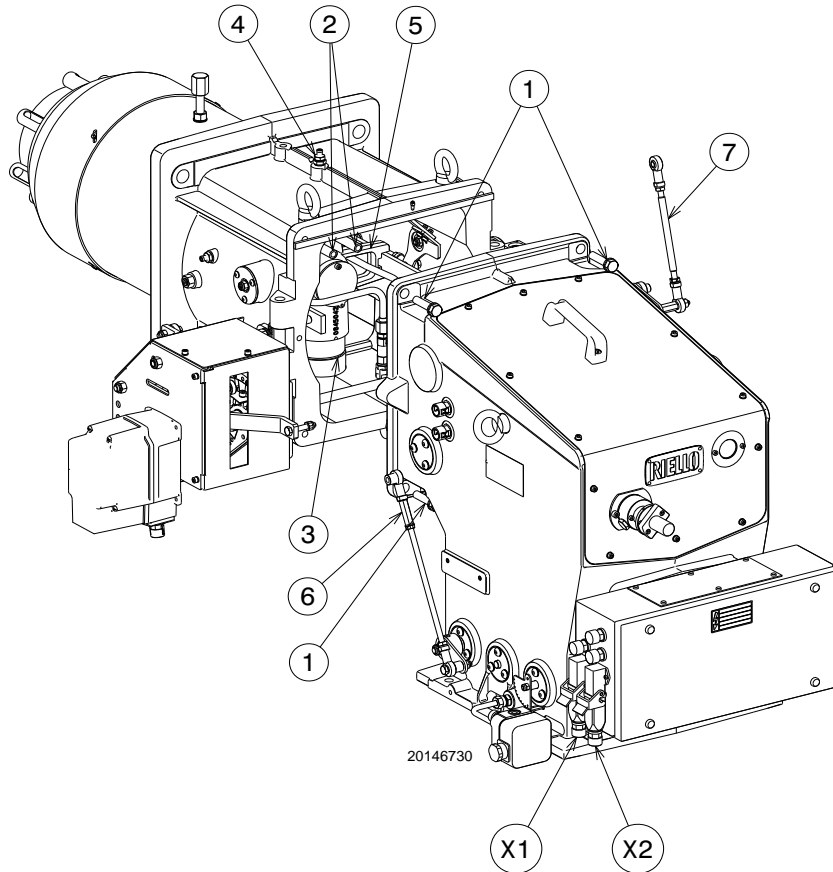

Fig. 16
- Unhook the tie-rod 6)(Fig. 16) of the head movement lever, removing the nut.